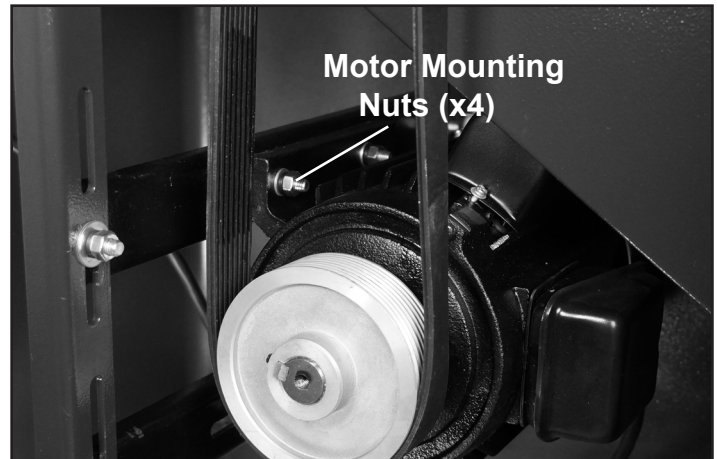

FIG. 5
1. Loosen the four 13mm motor mounting nuts holding the motor onto the inner slide rail. Fig. 5.
3. After the pulleys are properly aligned, tighten the four 13mm motor mounting nuts holding the motor onto the inner slide rail. Fig. 5.